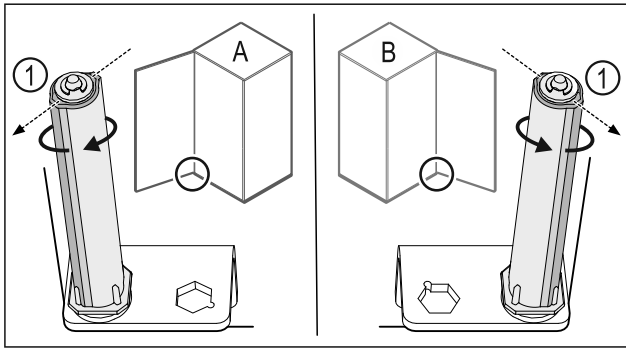

Fig. 40 Left-hinged (A) / Right-hinged (B)
- ▶ Turn the closing system against the resistance until the bar of the closing system Fig. 40 (1) points outwards.